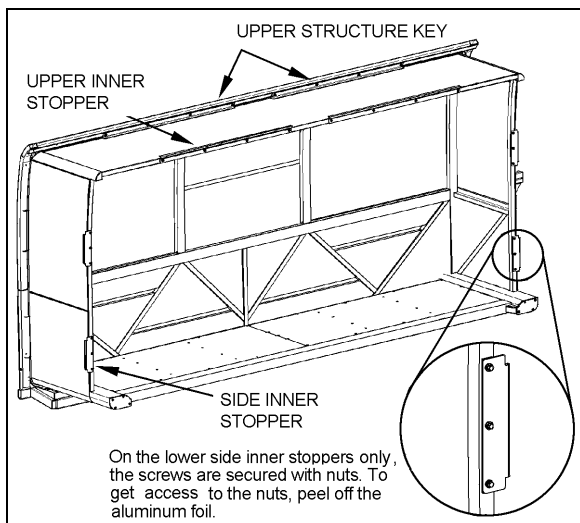
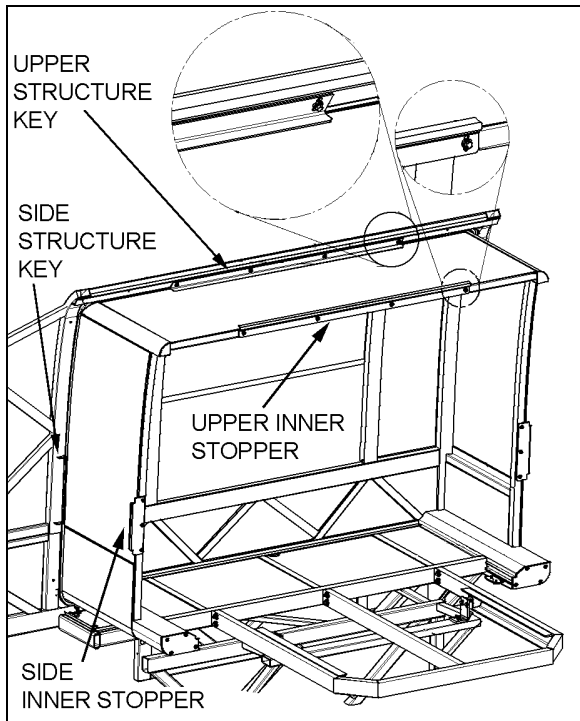

FIGURE 3: FRONT SLIDE-OUT
FIGURE 4: REAR SLIDE-OUT
The front slide-out is equipped with six inner stoppers laid out in the following way: two stoppers on the top horizontal member of the slide-out, and two stoppers on each vertical upright, while the rear slide-out is equipped with only three stoppers (Figure 3 & Figure 4). The upper inner stoppers are used to provide a support to position perpendicularly the slide-out with the vehicle structure.
The side inner stoppers are used to block the extension of the slide-out. They act as ultimate physical limits but take note that when the “out limit” sensors are properly adjusted, the slide-out extension stops before the side inner stoppers reach the side structure keys (Figure 3 & Figure 4).
2. Adjust the upper structure key and the upper inner stoppers according to FIGURE 4 with the seal deflated. When inflating, the seal presses the roof structure upward and at that moment, the upper inner stopper comes into contact with the upper structure key